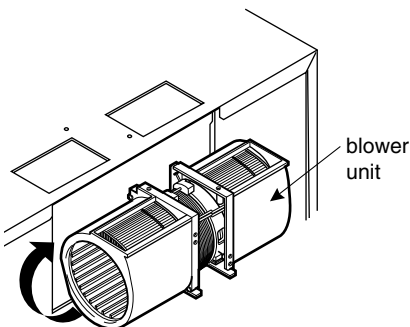
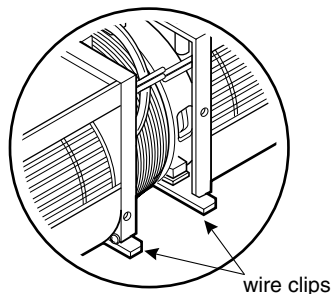

Figure 10
Figure 11
3. Rotate blower unit end over end. Rotate the unit 90° so that the exhaust ports face the rear of the unit. See Figure 10. Slip wires into clips at the upper left hand corner of blower unit. See Figure 11.